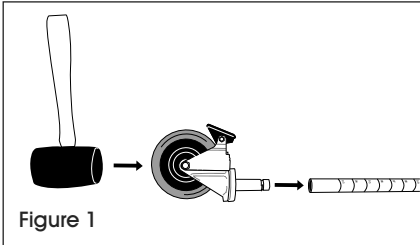

Figure 1
1. Make sure post is positioned as shown. (See Figure 1)
2. Engage the wheel brakes to keep casters from rolling during assembly. Use a rubber mallet to tap caster stems into posts. (See Figure 1)